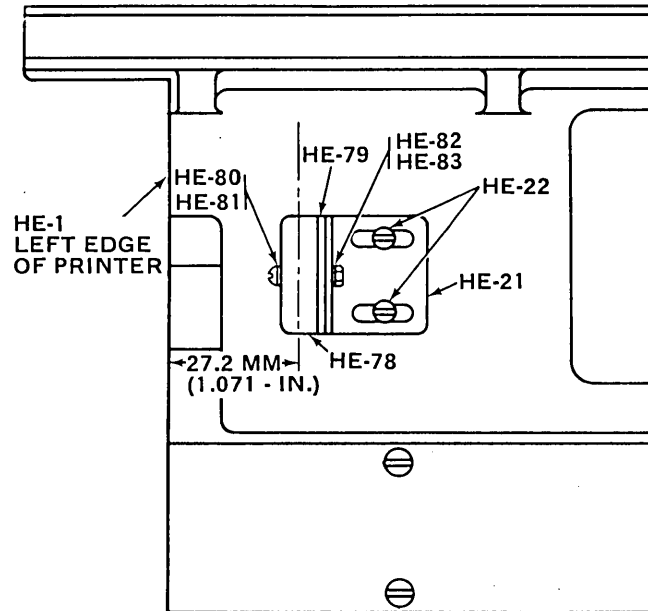

Figure 5-9. LOCATION OF LEFT REED SWITCH (TOP VIEW)
E. Static Adjustment/Limit (Reed) Switch (Figure 5-9)